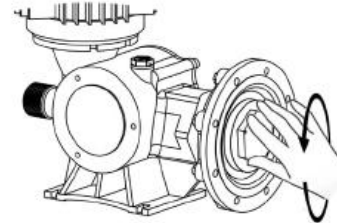
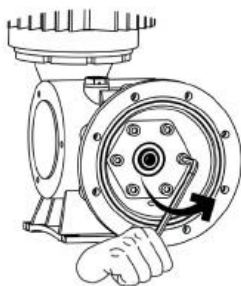

Figure 8
Figure 10
- ◆ Turn the diaphragm counterclockwise by hand or wrench, and the diaphragm will be loosened and separated from the push rod. (See figure 8)
- ◆ When figure 8 is finished according to the operation method of 7.4, it is necessary to turn the stroke adjustment knob to 100 %, and then use a wrench to diagonally remove the bolts on the transition section. (See figure 10).